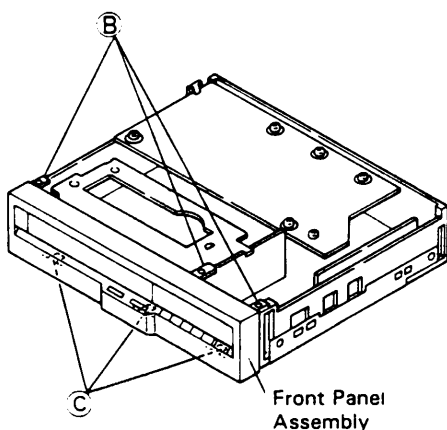

Fig. 1-1-2
2. Carefully disengage 3 tabs (B) of the front panel assembly from the upper side of the chassis.
3. Refer to Fig. 1-1-2 and pull the front panel assembly forward you to disengage 3 tabs (C) of the front panel assembly from the bottom side of the chassis, then remove the front panel assembly.